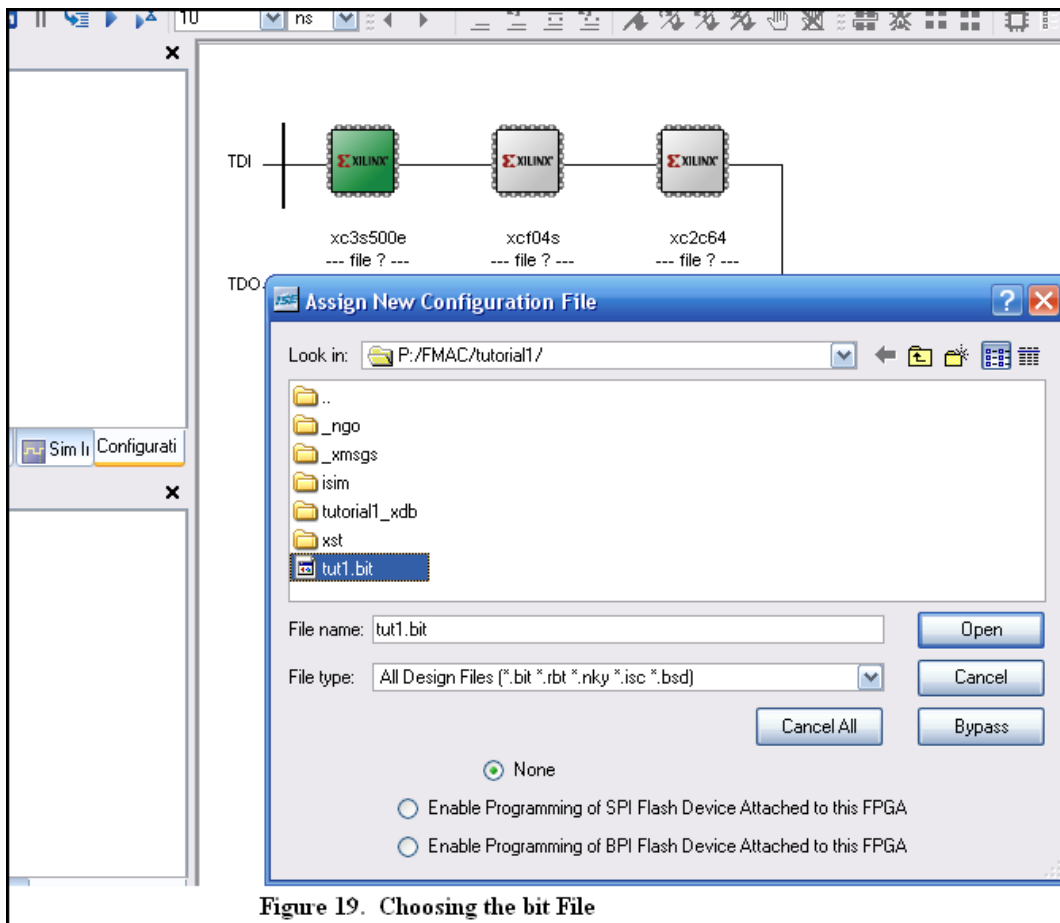

Figure 19. Choosing the bit File
17. The boundary scan performed on the board finds three items on the JTAG chain. The items are (in order from left to right): the FPGA, the PROM and the CPLD. For the purposes of this project choose the “.bit” file and then Open. For the PROM and the CPLD choose “Bypass”. Finally click OK on the final screen. See Figure 19.